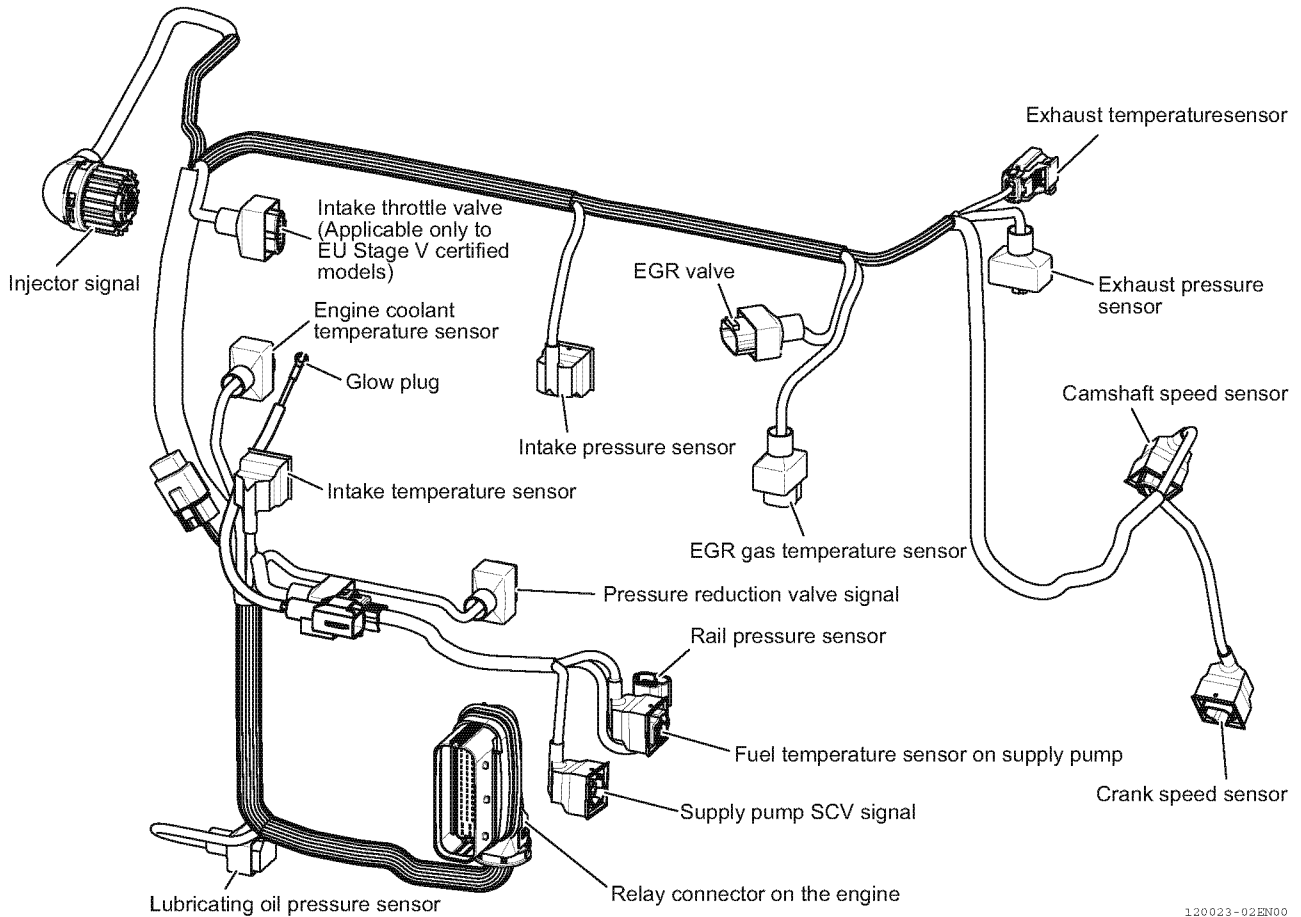

Fig.70-14
Fig.70-14 shows the layout of the wire harnesses (standard) that connect sensors and control signal couplers.
1. Remove the connectors for sensors and signals shown in Fig.70-14. Remove the clips that fasten the harnesses to the cylinder block (where necessary).